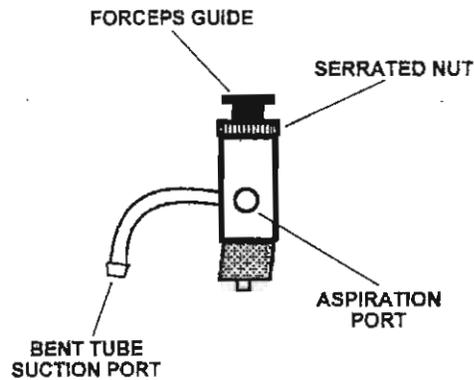

Figure 1-8. Automatic aspirator.
(7) *Automatic aspirator (fig 1-8)*. The automatic aspirator provides a connector for an auxiliary suction apparatus, guides the biopsy forceps into the channel, and supports the introduction of medication or lavage into the channel.